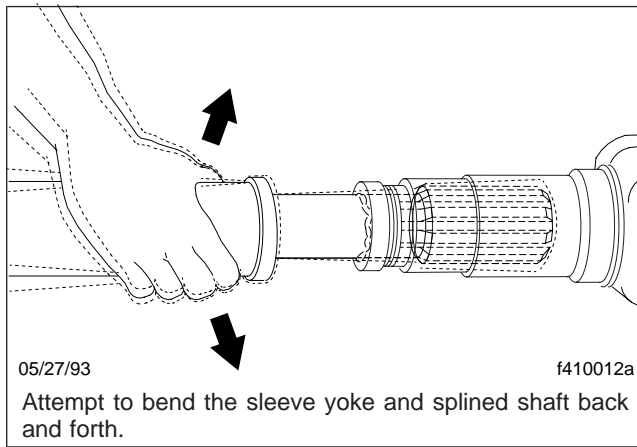

Fig. 3, Slip Joint Spline Wear Checking
5. Check slip joints for spline wear by attempting to bend the sleeve yoke and splined shaft back and forth. See Fig. 3. If radial looseness is greater than 0.007 inch (0.18 mm), replace both the sleeve yoke and the splined shaft.